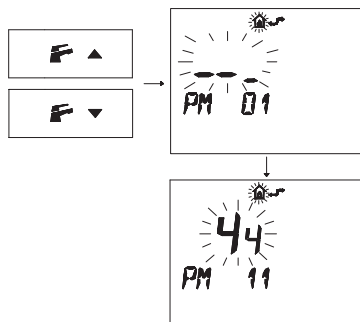

Figure 5.40
- Press buttons **F** ▼ or **F** ▲ to display the "PM11" program that enables pump post-circulation (Figure 5.40).